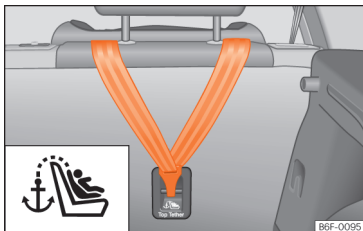

Fig. 37 Rear part of the rear seats: securing rings for the Top Tether belt.
Child seats with a Top Tether system are fitted with an additional belt for fastening to an anchor point in the vehicle. This anchor point is located on the rear of the rear seat backrest (identified with the symbol ) and provides better retention >>> **Fig. 37**.
- Slide the belt and secure it properly with the anchor on the rear seat backrest >>> **Fig. 37**.